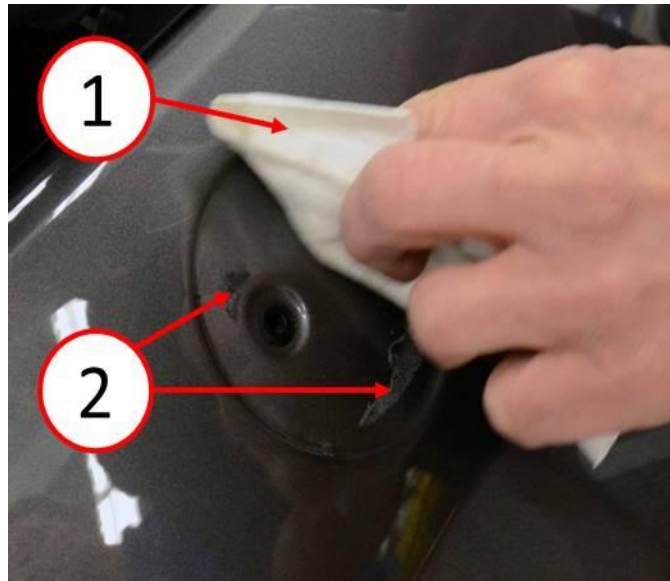

Fig. 4 Adhesive Removal
4. Remove adhesive residue from the liftgate where the abarth emblem has been removed with 3M 08984 general purpose adhesive cleaner or equivalent in conjunction with a lint free towel (Fig. 4).